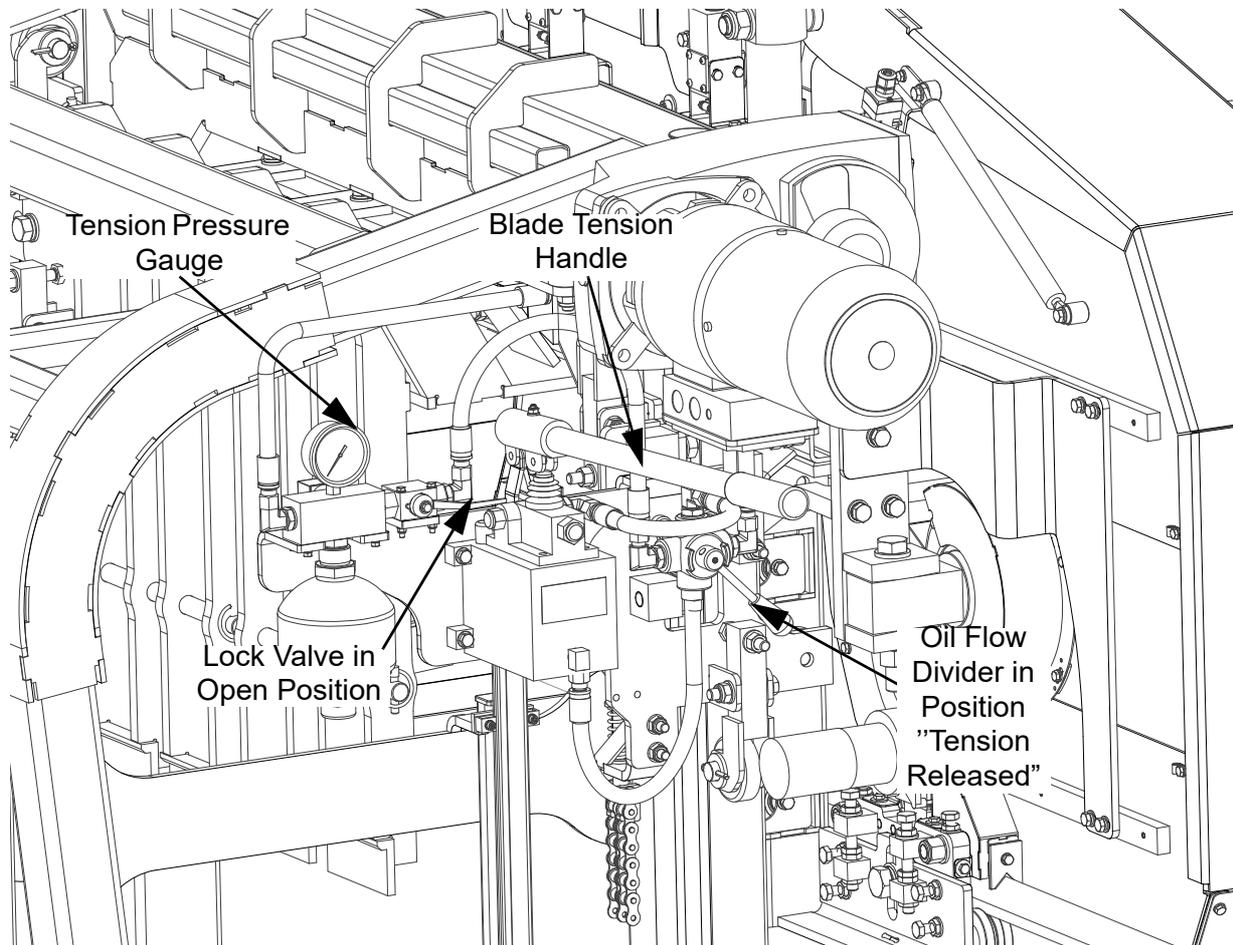

FIG. 3-1
See Figure 3-1.
5. Use the cant adjustment bolt, shown in **Figure 3-1**, to adjust when the blade travels on the blade wheels.